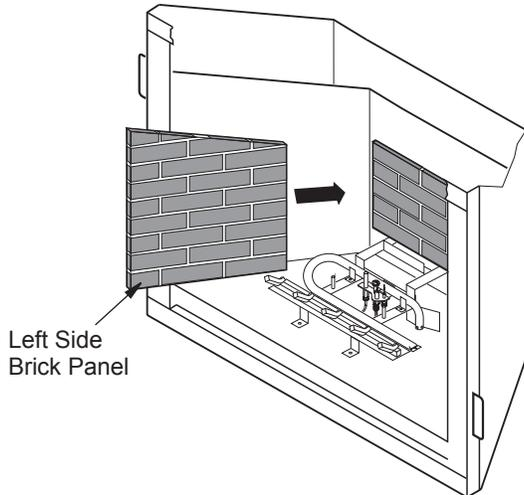

Figure 44 - Installing Side Brick Panels
6. Install left side brick panel by sliding it between the grate and the side of the firebox (see Figure 44, page 23).